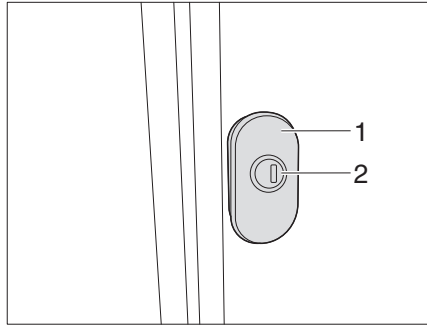
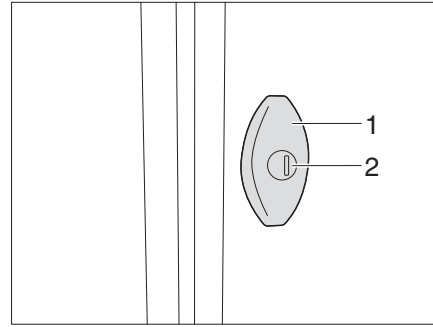

Fig. 56 Turnbuckle lock (variant 1)
Fig. 57 Turnbuckle lock (variant 2)
- Insert the key into the locking cylinder (Fig. 56,2/ Fig. 57,2) and turn a quarter turn. The flap lock is unlatched.
- Pull on the turnbuckle lock (Fig. 56,1/ Fig. 57,1) and rotate anticlockwise through 180°. The external flap is open.
- For variant 1: Push in the locking cylinder (Fig. 56,2) until it engages. The flap lock is locked.